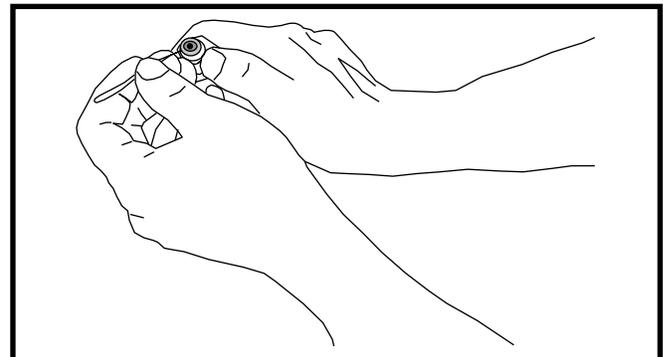

Figure 3. Removal of Orifice
2. Insert a light-gauge wire hook between the valve body and the restrictor orifice while being careful not to scratch either part. Carefully remove the restrictor orifice from the valve body. See Figure 3, \(page 4\).